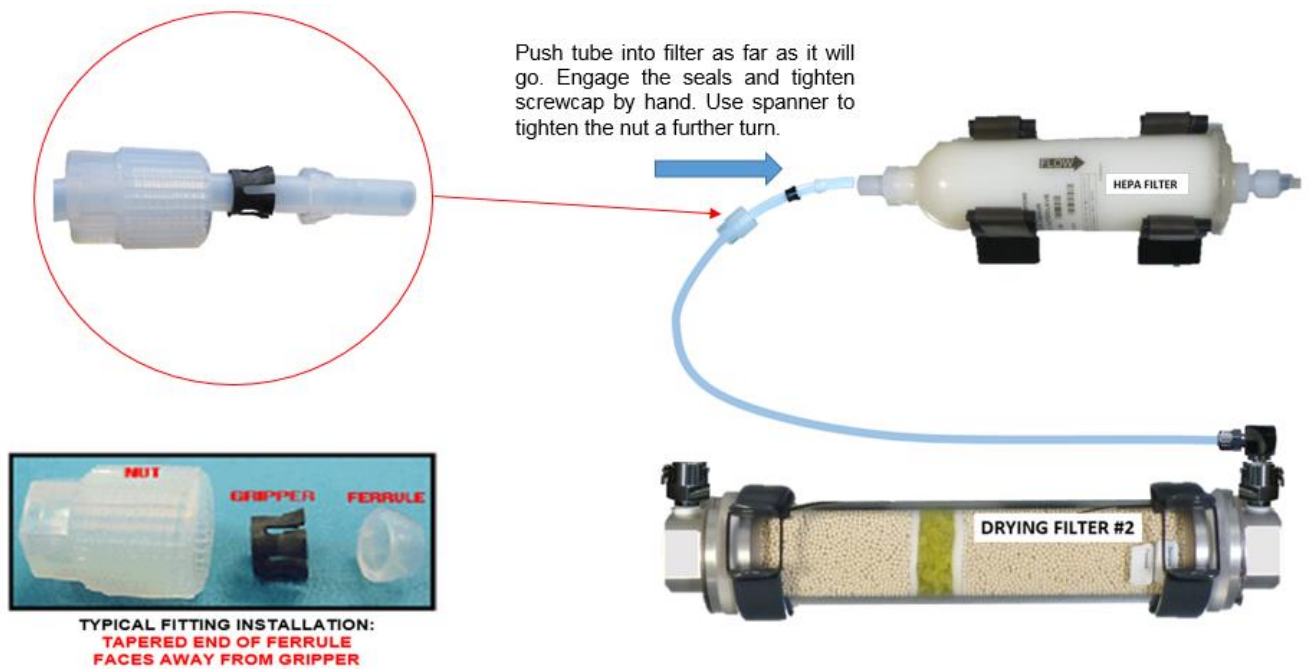

Figure 5
- Hold the spare end of tube and load with the nut screw cap, followed by the gripper and lastly the ferrule. (Utilising the plastic fittings you kept mentioned above) Ensure the fittings are orientated as originally supplied. see **Figure 5**